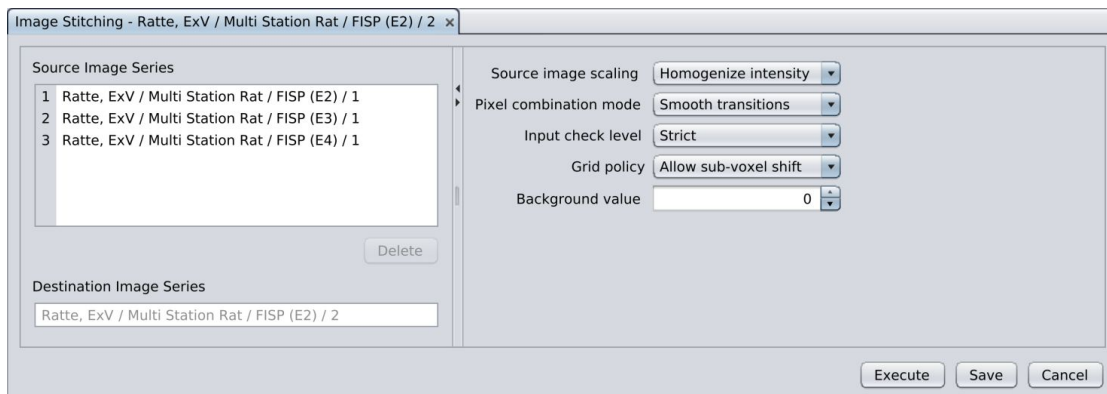

Figure 1.413: Image Stitching Processing Editor
- ▶ A Processing Editor opens that allows configuring the new image stitching (see Figure 1.413 [p 459]).